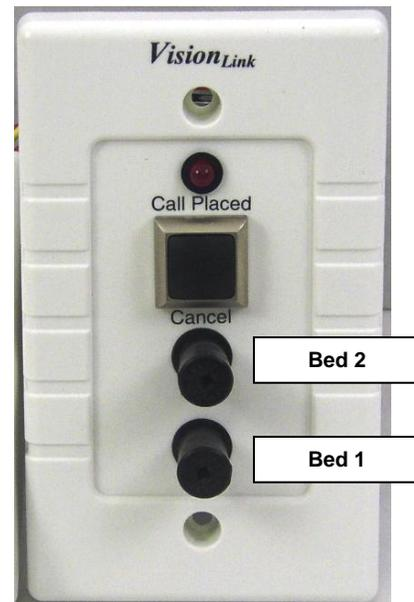

Figure 28
- The VL155-2 Dual Bed Station uses input 1 & input 2 where input 1 is the bottom ¼” jack and input 2 is the top ¼” jack. For programming use the ID from the bottom of the transmitter in Bed 1 (example 5243), then change to Bed 2 and use the original ID plus 1 (example 5244). This has to be done or both jacks on the bed station will not work correctly. See **Figure 28**.